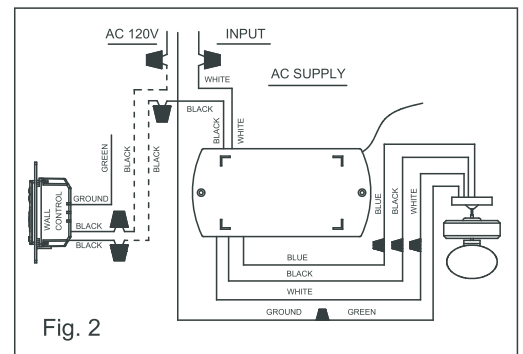

Fig. 2
Step 2. Make the electrical connections as shown in Fig.2. If your outlet box has a ground wire (Green or Bare Copper) connect the Wall Transmitter's ground wire to it. Otherwise connect the Wall Transmitter's wire directly to one of the screws from the outlet box. Secure all wire connections with the plastic wire nuts provided.
Do not use fan speed control in canopies where the Mounting is not as described in Fig2 of the installation instructions.